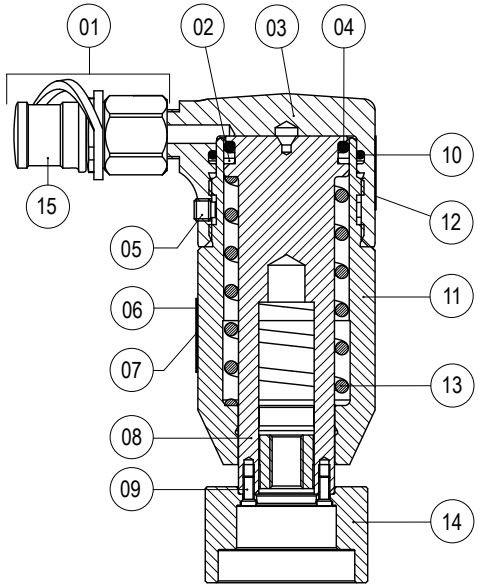

FIG. 11
6. PARTS LIST (TOOL HEAD) (Ref. to Fig. 11)